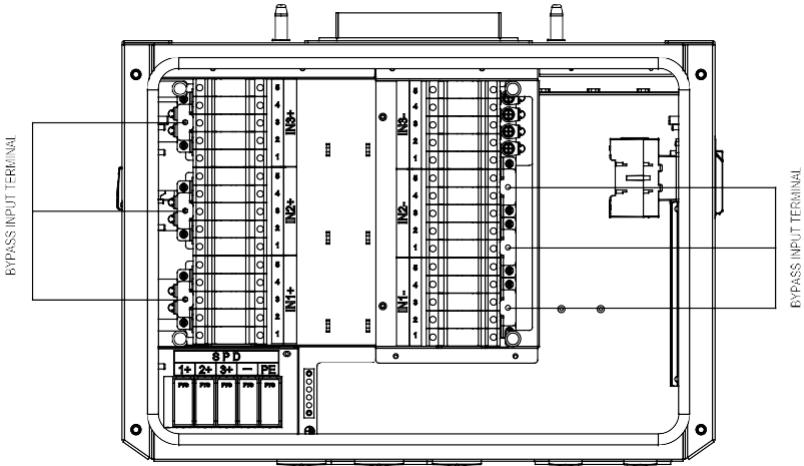

Figure 3-25 Bypass Terminal option installed within the Standard wirebox
- 4. Bypass Terminal option for standard wirebox.** Fuse Bypass Terminals are available as an optional accessory when external PV string fused combiners are used. The Bypass Terminals allow for larger single conductors to be terminated at each MPPT within the wirebox, bypassing the input fuses as shown in Figure 3-25. See Section 9 Accessories for installation information.